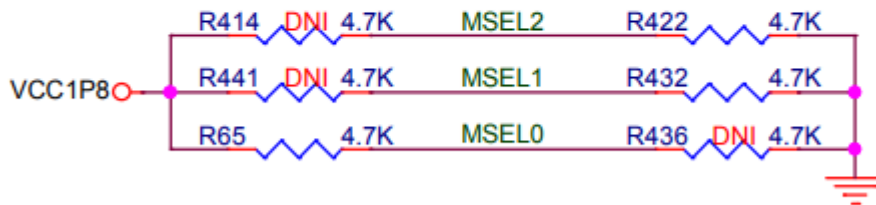

Figure 2-1 The MSEL pin setting
As shown in **Figure 2-1**, the mode select pin of the FPGA on the Apollo-S10 board has been set to **Active Serial (AS) mode** using resistors. Thus, the Apollo S10 board supports the following configuration modes:
- Active Serial (AS) mode